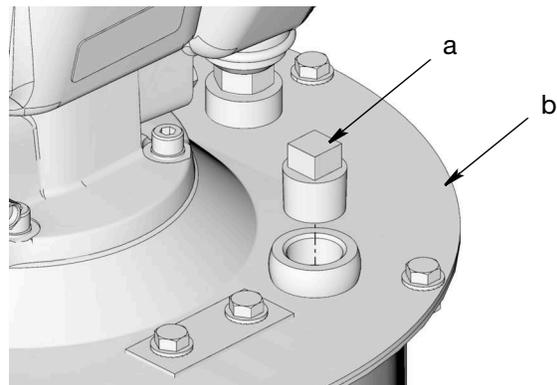

FIG. 2
4. Remove plug (a) from cover (b). Discard plug, you will not reuse it (FIG. 2).